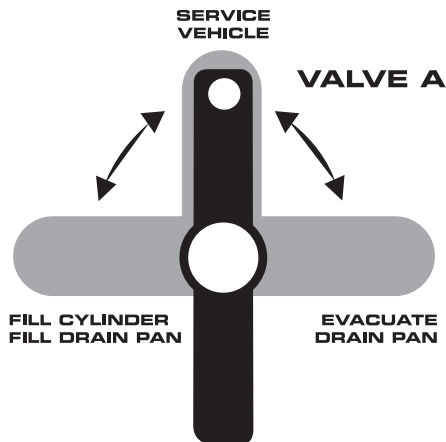

Figure 42. Valve A Control Positions
2. Set VALVE A (on the side of the unit, see Figure 42) to FILL CYLINDER, FILL DRAIN PAN
2. Set VALVE A (on the side of the unit, see Figure 42) to FILL CYLINDER/FILL DRAIN PAN.